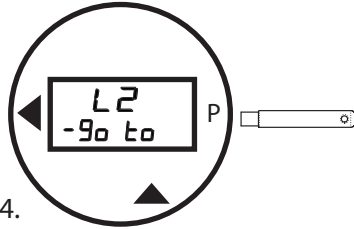

Figure 24.
- a. Pass the wand over the **P** until you reach the **L2 - Go To** selection (Figure 24).